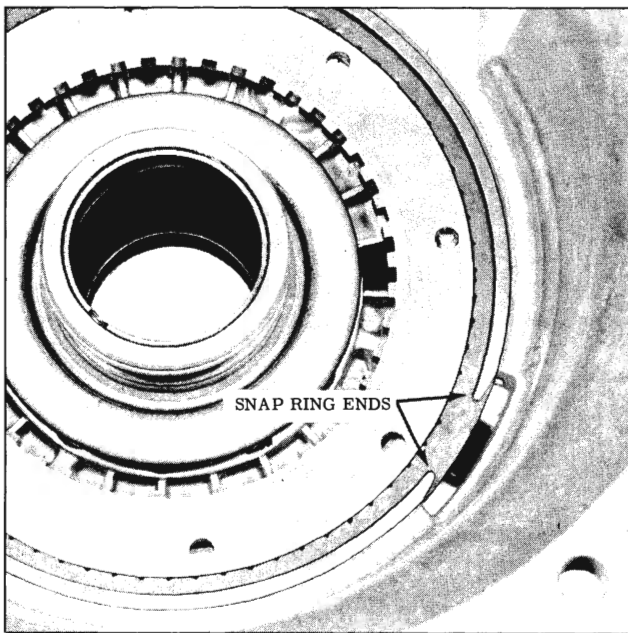

Fig. 3-97 Snap Ring Location
10. Install large reverse cone snap ring into snap ring groove in case. (Fig. 3-97)